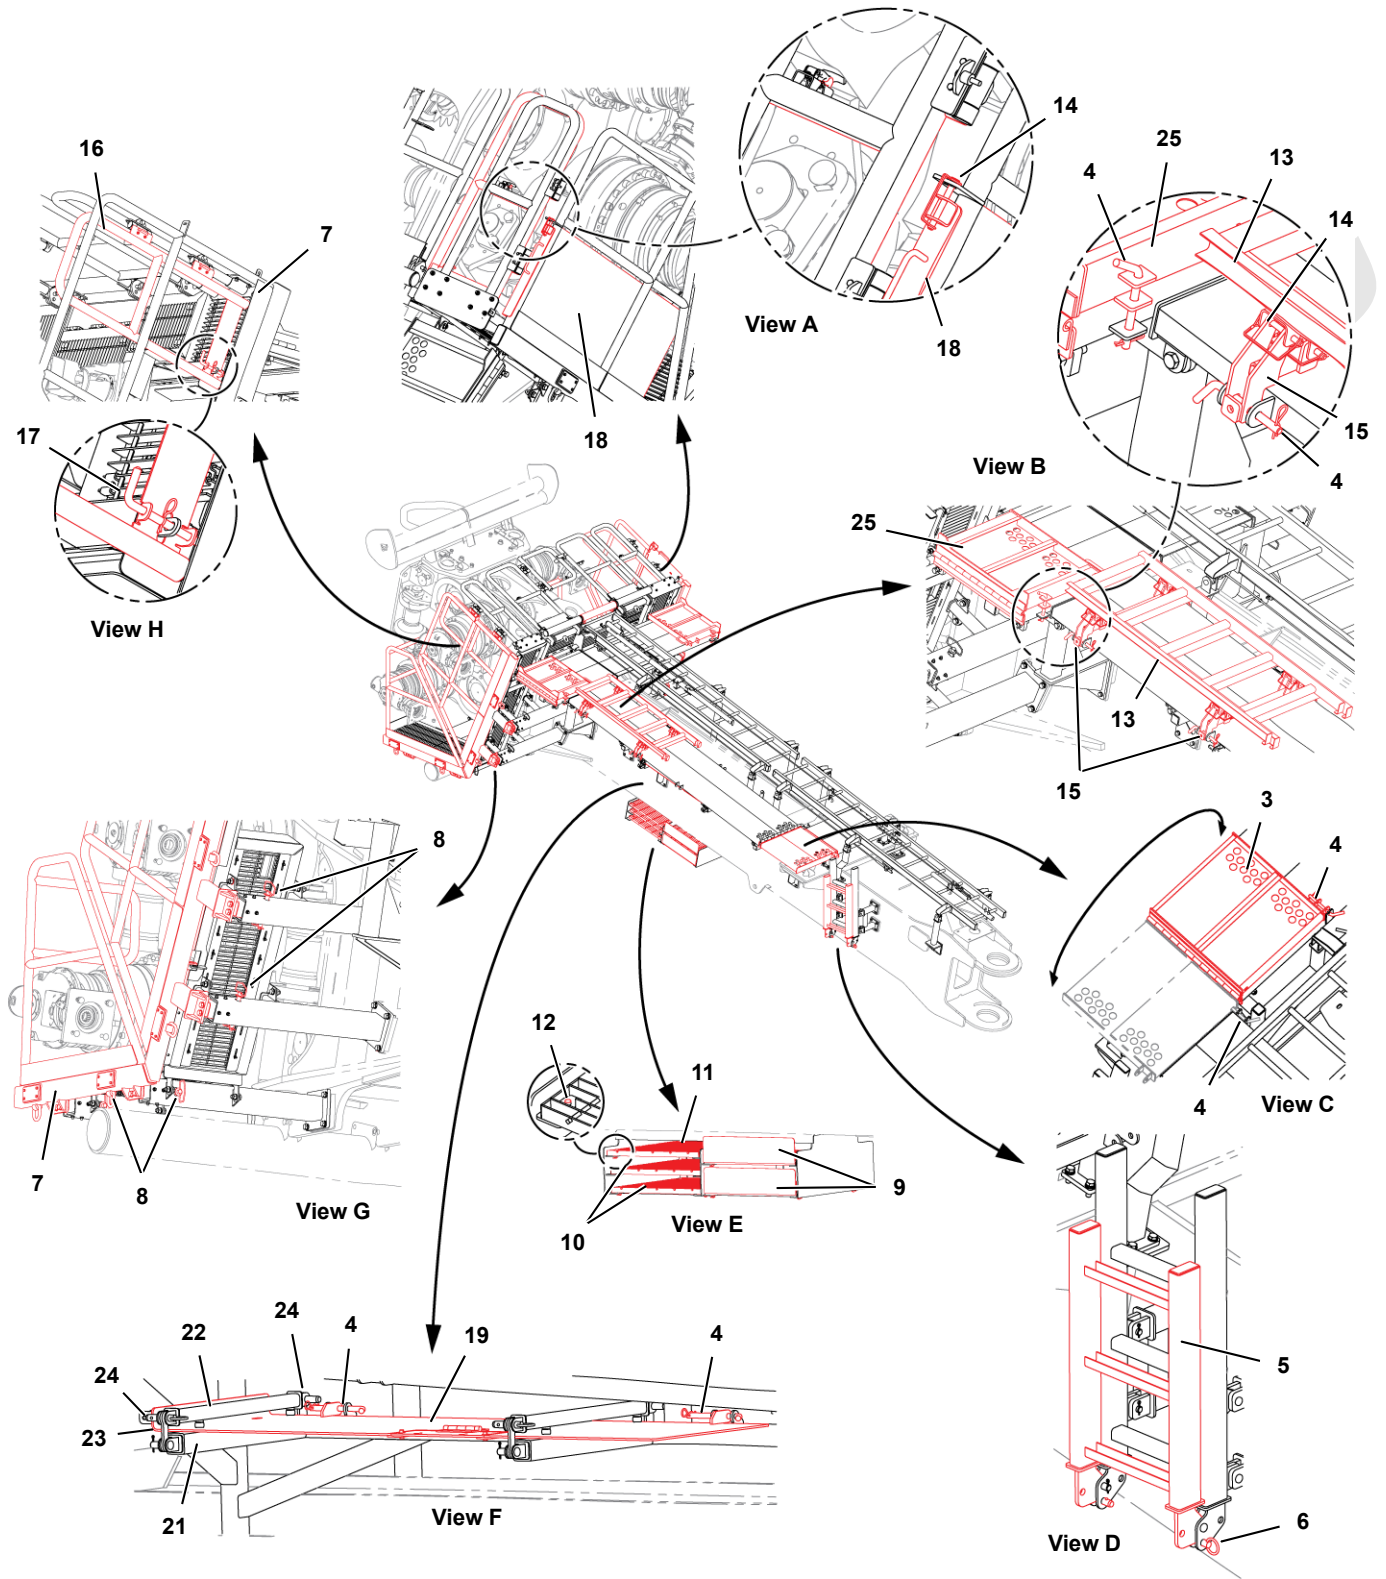

FIGURE 4-75
FIGURE 4-75 continued
Legend for Figure 4-75
- You will have to unpin and rotate walkway extension (3, Figure 4-75, View C) out of the way to access the bottom-right lifting lug.
See Figure 4-75 for the remaining steps.
- Remove pins (4) and rotate hydraulic pins (5) from the shipping position (View D) to the working position (View E).
- Lift VPC actuator (1) and actuator frame (2) into position at the rear of the rotating bed.
- Align the connecting holes in actuator frame (2) with the connecting holes in rotating bed (3).
- Rotate walkway extension (3, Figure 4-75, View C) to the working position and pin it.
- Remove pins (7) from the shipping position (View D) and install them in the working position (View E).
- Pin rods (8, View C) from actuator frame (2) to hydraulic swivel levers (9). Adjust the rod ends if necessary to align the connecting holes.